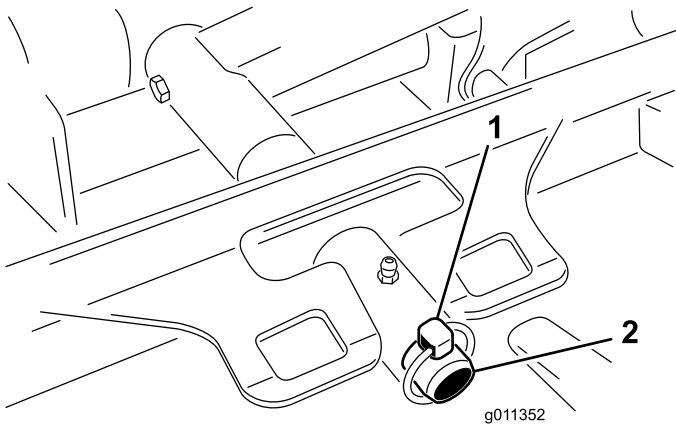

Figure 94
3. Remove the lynch pin (for Groundsmaster 4500 machines) or retaining nut (for Groundsmaster 4700 machines) securing the cutting unit-carrier frame to the lift-arm pivot pin (Figure 94).
2. Slide the cutting unit-carrier frame onto the lift-arm-pivot pin (Figure 94). Secure the cutting unit to the pin with the lynch pin (for Groundsmaster 4500 machines) or retaining nut (for Groundsmaster 4700 machines).